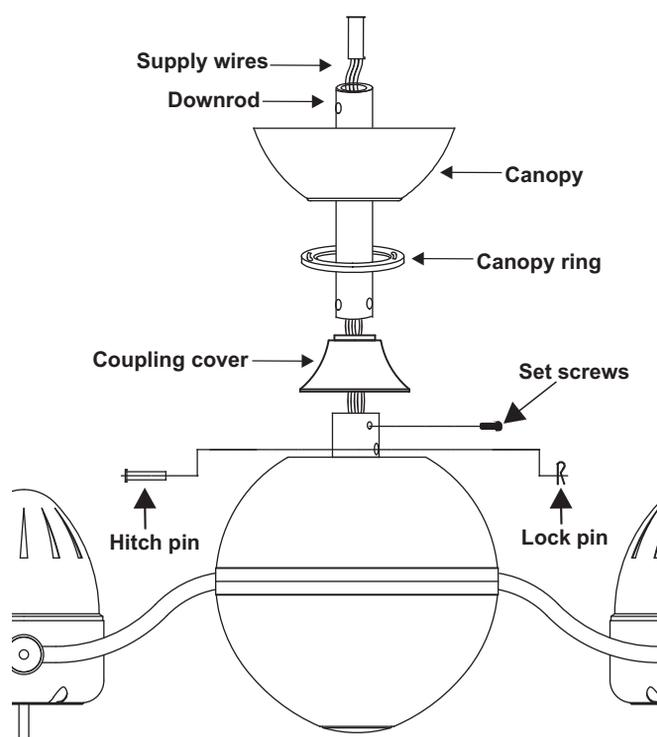

Figure 4
5. Remove the hitch pin and loosen the two set screws from the central shaft/top coupling of the motor assembly. Doing so will allow the down rod to enter the central shaft. (Fig. 4)
6. Carefully feed the fan wires through the down rod. Align the holes at the bottom of the downrod with the holes in the central shaft (Fig. 4). Carefully insert the hitch pin through the holes in the central shaft and downrod. Insert the locking pin through the hole in locked position. Re-tighten the set screws against the down rod.